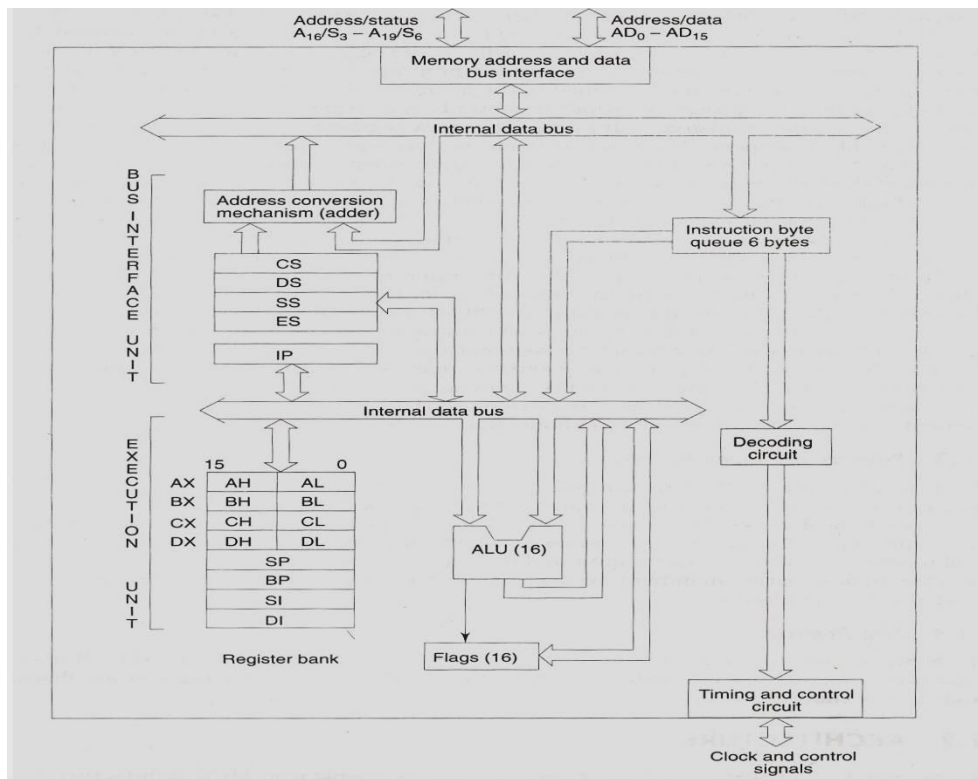

Fig.1.2. Internal architecture of 8086 Microprocessor
The internal architecture 8086 microprocessor is as shown in the fig 1.2. The 8086 CPU is divided into two independent functional parts, the Bus interface unit (BIU) and execution unit (EU).